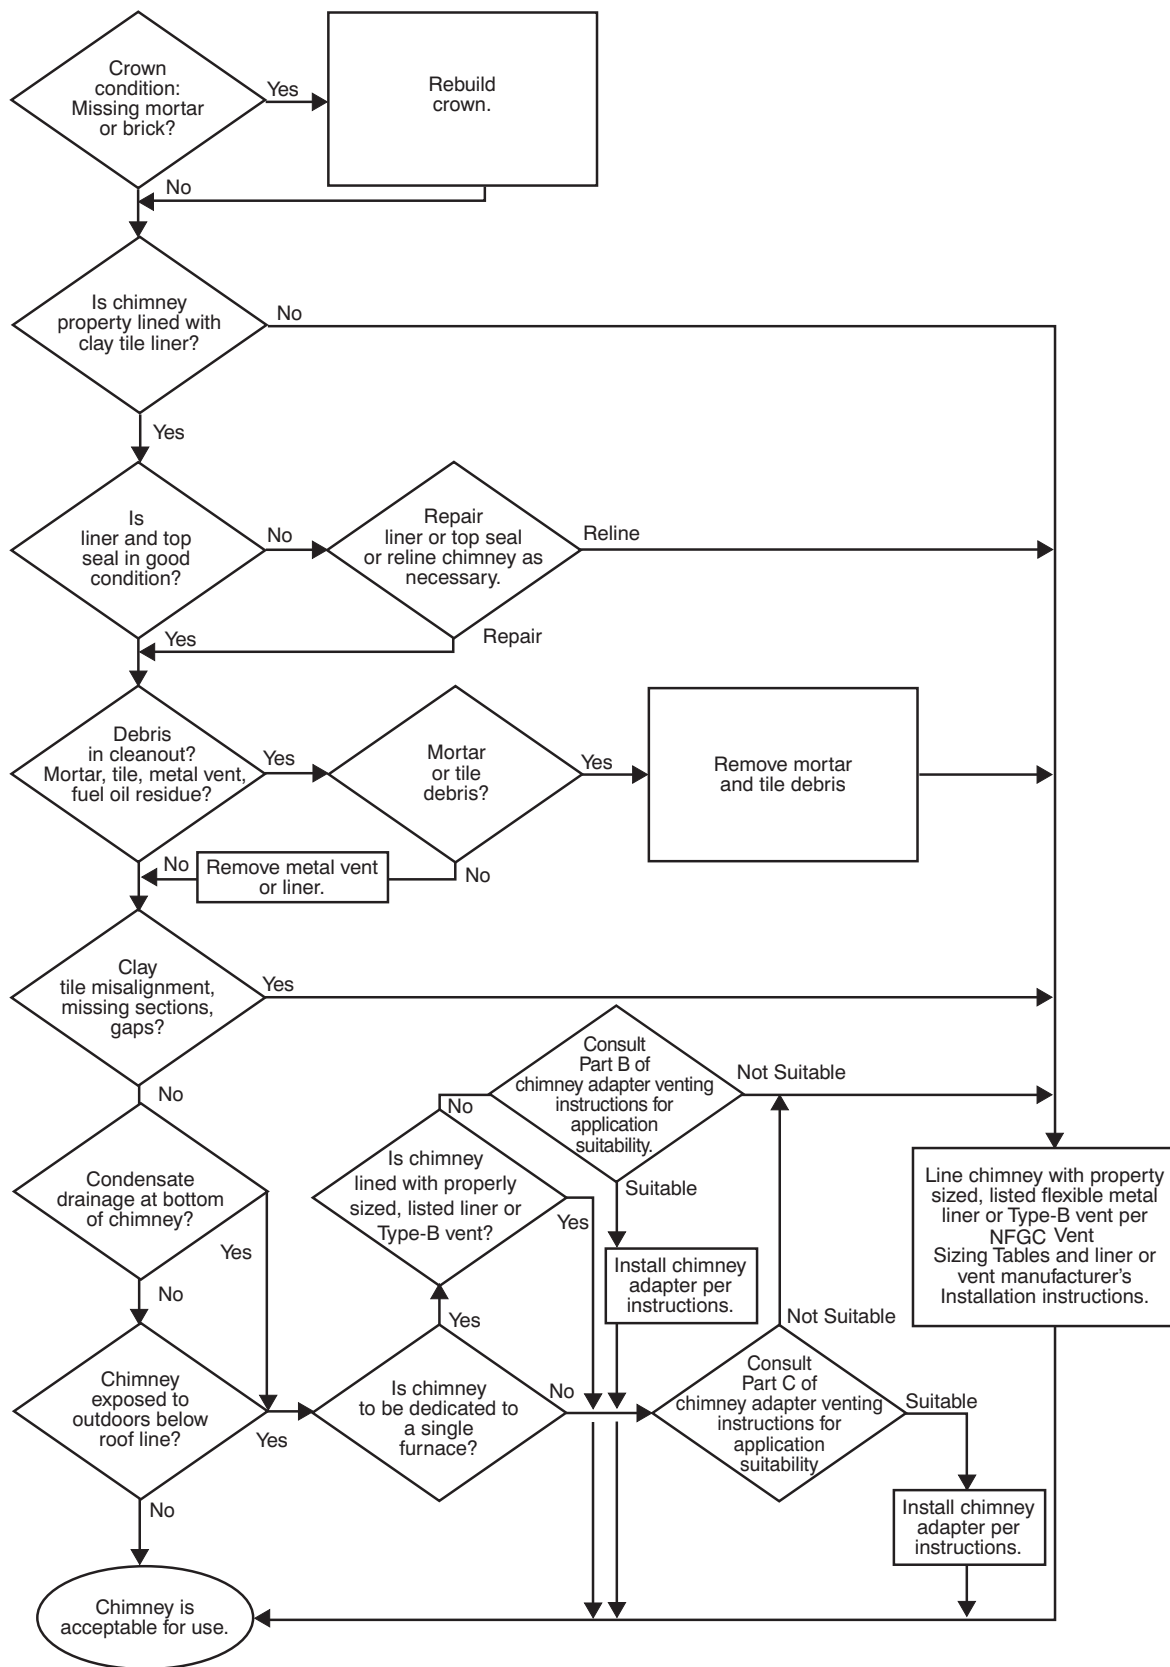

Fig. 26 – Chimney Inspection Chart
6. Do not vent this appliance into an unlined masonry chimney. Refer to Chimney Inspection Chart, Fig. 26.
Inspections before the sale and at the time of installation will determine the acceptability of the chimney or the need for repair and/or (re)lining. Refer to the Fig. 26 to perform a chimney inspection. If the inspection of a previously used tile-lined chimney: